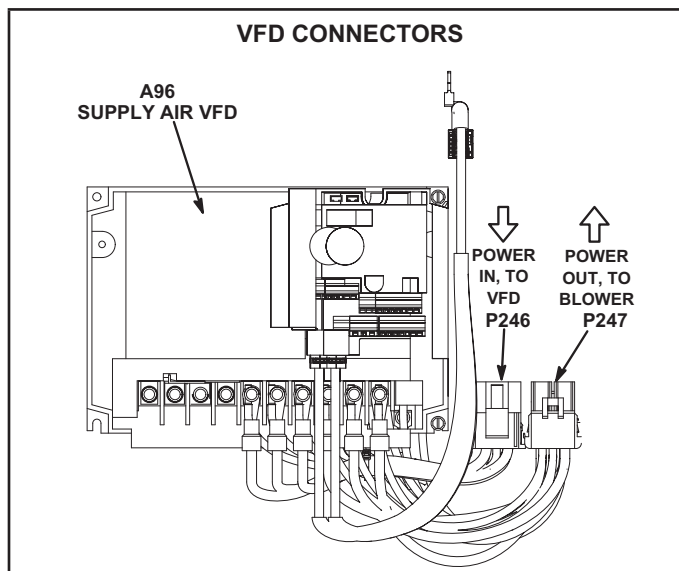

FIGURE 37
- 2 - Locate P246 and P247 connectors near the VFD. See FIGURE 37.